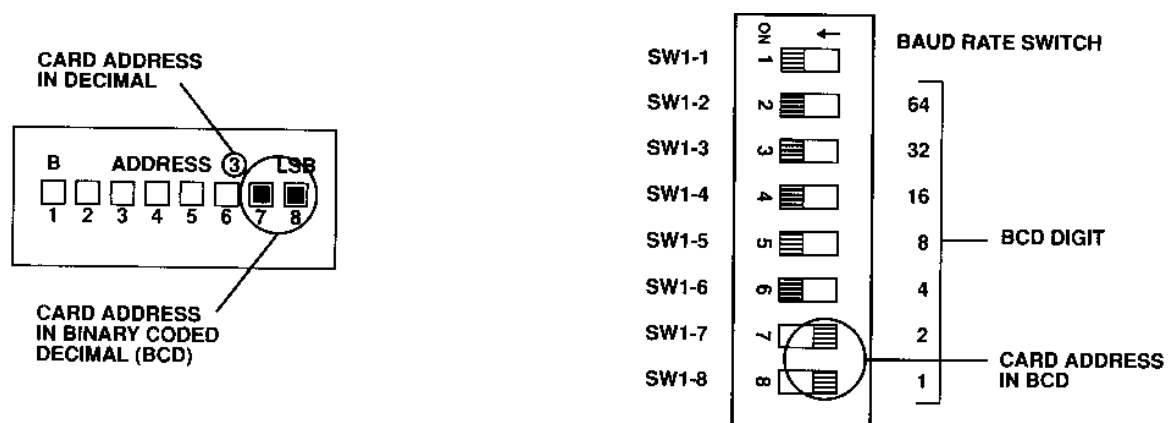

Figure 4 Card Address Label and Address Switch
- The relationship between Address Switch SW1 and the card address label is shown in Figure 4.